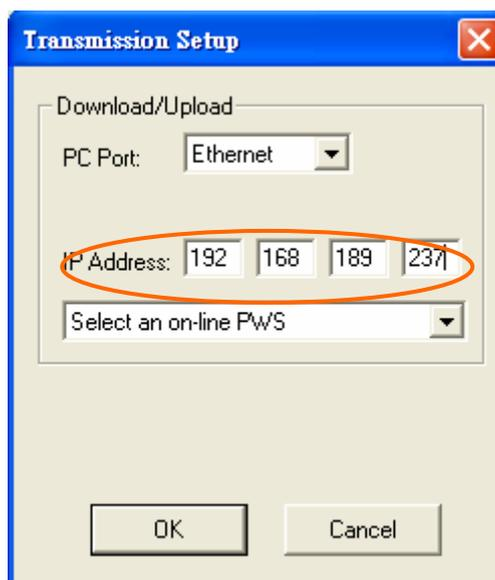

Figure 211. The [Transmission Setup] Dialog Box
3. Enter the address to [IP Address] or select from the drop-down list. See Figure 211.